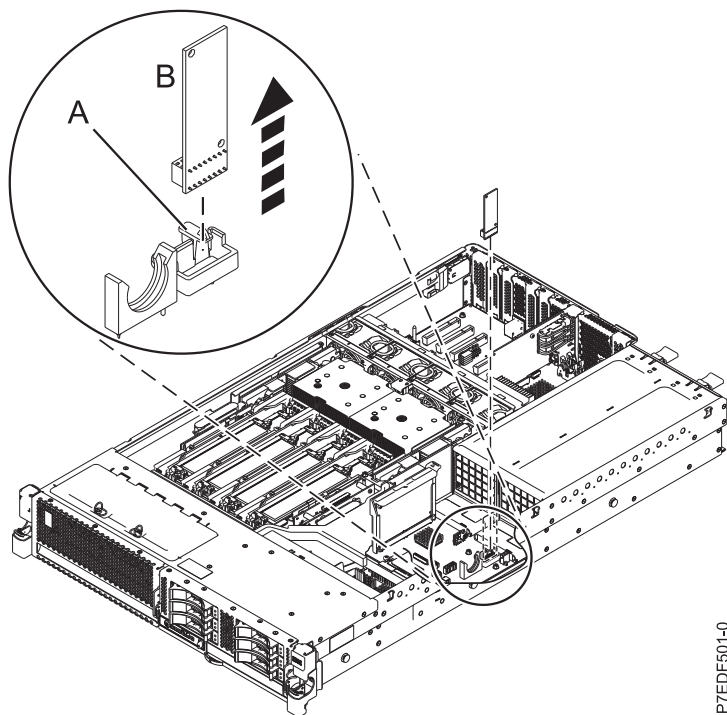

Figure 2. Removing the VPD card
- a. Press on the handle (A) to unlock the VPD card (B) from its slot on the system backplane. See Figure 2.